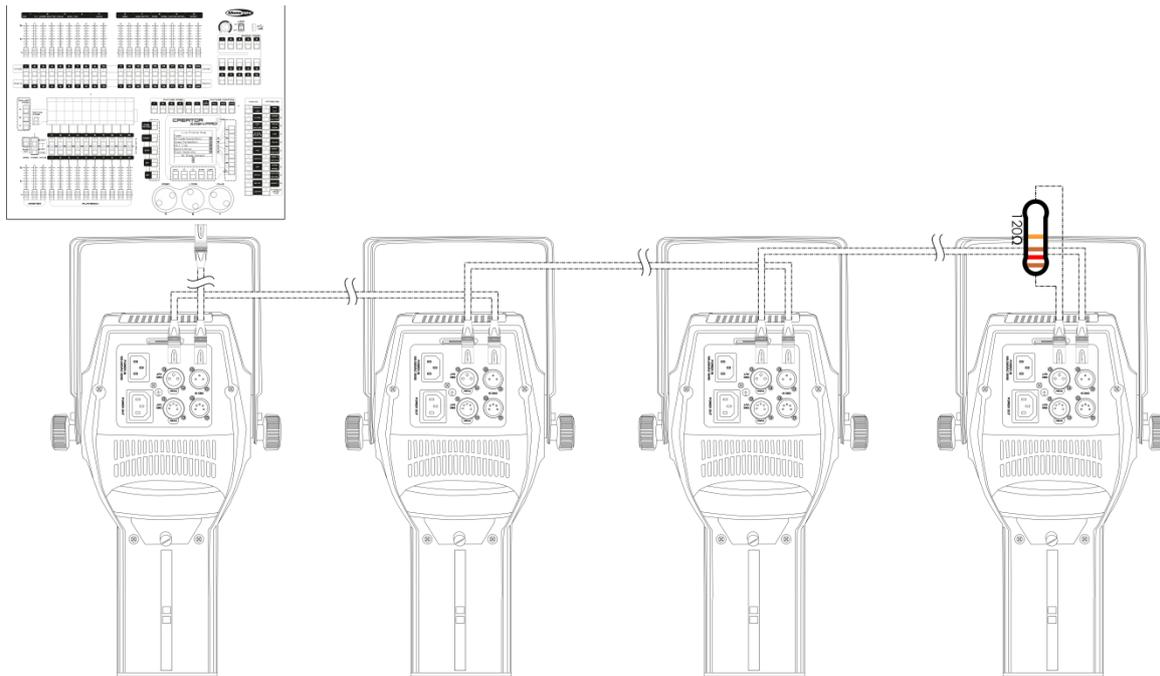

Fig. 02
- 04) Link the units as shown in fig. 02. Connect the first unit's DMX "out" socket with the second unit's "in" socket, using a DMX-signal cable. Repeat this process to link the second, third, and fourth units.